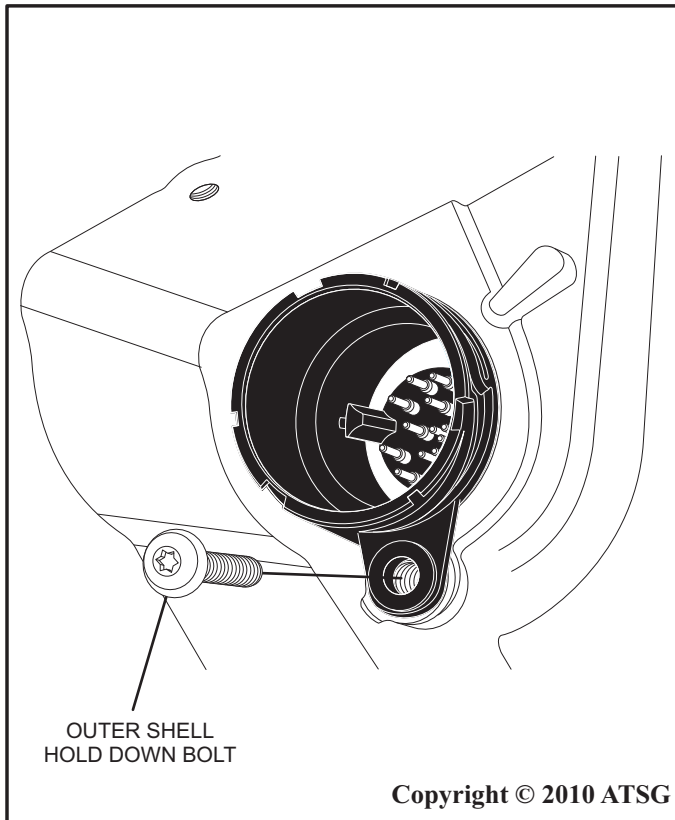

Figure 3
5. Remove the outer shell hold down bolt from the transaxle case using a #27 Torx bit as shown in figure 3.